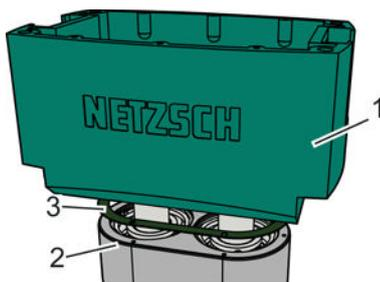

Fig. 102: Lifting off the gearbox housing, example
Lift off the gearbox housing (Fig. 102/1) from the upper bearing housing (Fig. 102/2) with the assistance of a second person and place to the side.
18. ➔ Remove the flat seal (Fig. 102/3) from the bearing housing (Fig. 102/2), clean with a lint-free cleaning cloth, check for damage and place to the side.